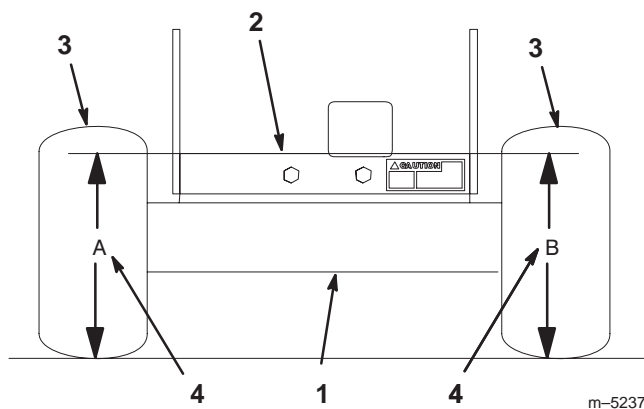

Figure 47
3. Measure engine deck height at location “A” (Fig. 47).
4. Measure engine deck height at location “B” (Fig. 47).